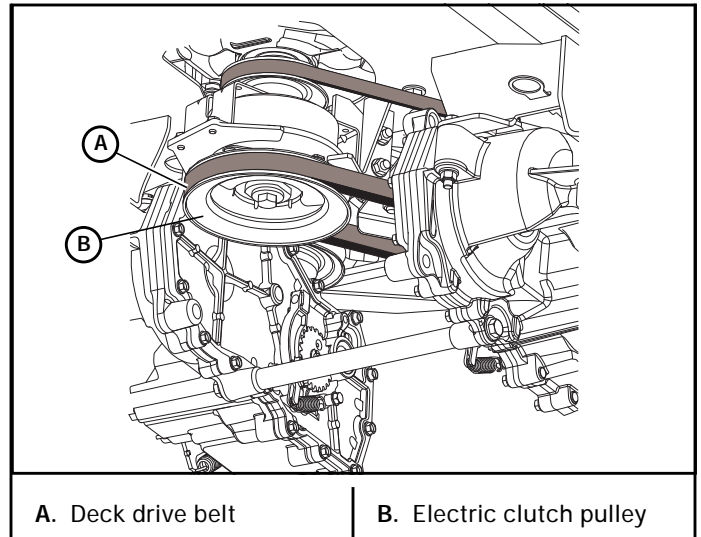

Figure 6-15
6. Remove the deck drive belt from the electric clutch pulley located on the engine shaft. Figure 6-15